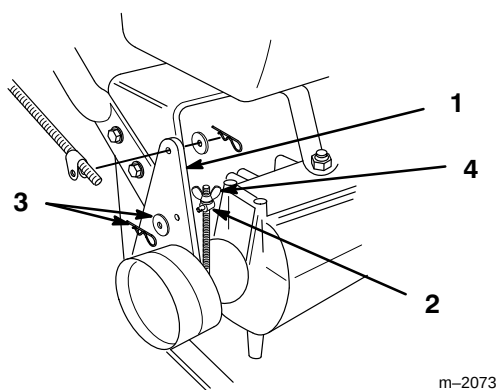

Figure 10
6. If brake adjustment is required, remove hairpin cotter and washer securing brake rod fitting to idler bracket (Fig. 10).
7. Adjust wing nut up or down on brake rod and secure fitting to idler bracket (Fig. 10). Check adjustment and readjust if necessary.